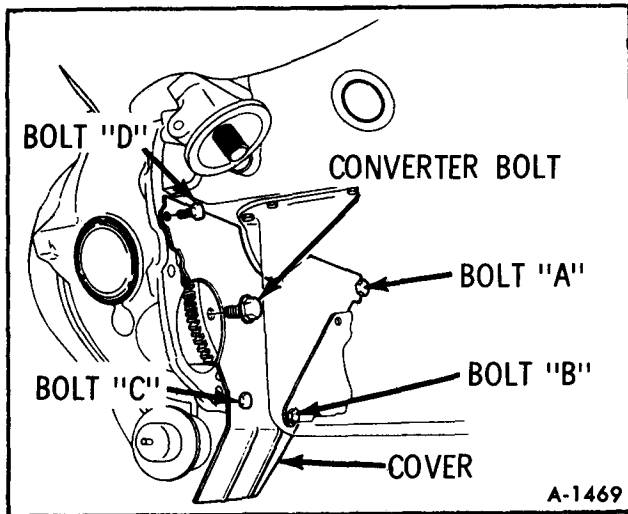

Figure 71—Flywheel Cover Removal
6. Referring to figure 71, remove flywheel cover bolts "B", "C" and "D". Loosen bolt "A" and pivot cover out of the upper L.H. bolt "A" slot.
NOTE: Rotate flywheel to gain access. Refer to figure 71.
13. Referring to figure 71, install flywheel cover and tighten bolts "A", "B", "C" and "D" to 5 ft. lbs. torque.